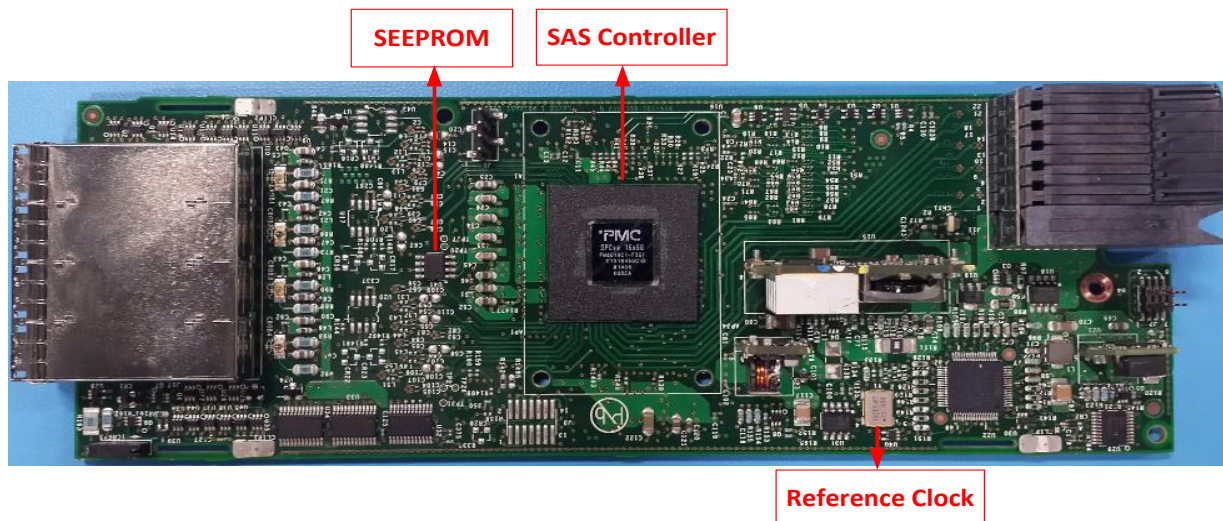
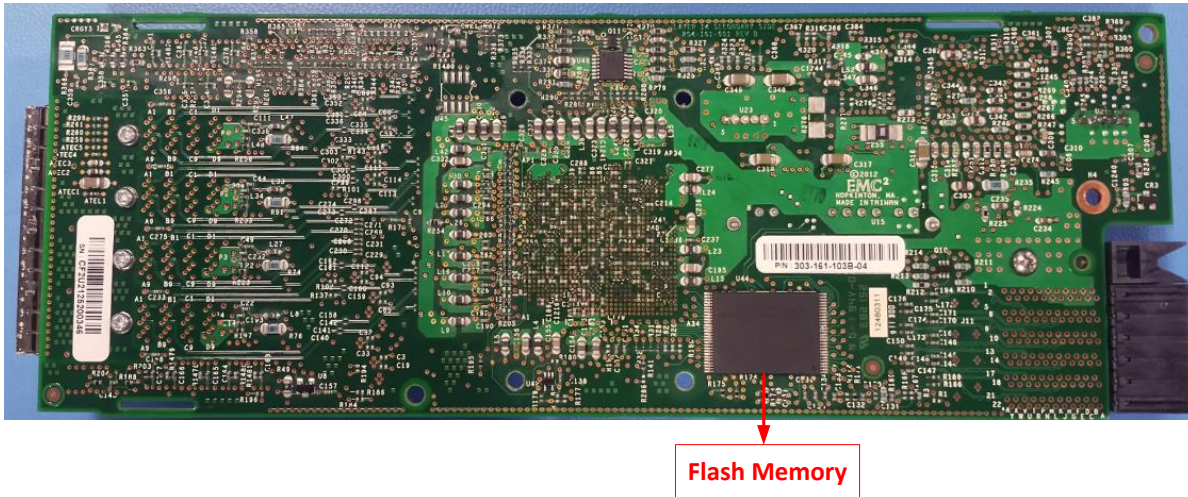

Figure 1 – UltraFlex Form Factor (Top View)
Figure 2 – UltraFlex Form Factor (Bottom View)
- The first form factor includes the PM8019 SAS controller variant (version 1.1.1-303-161-103B-04), and is embedded in a pluggable hardware module, the UltraFlex SAS I/O Module. The PM8019 is a sixteen-lane SAS controller configured to provide four quad-lane SAS interfaces or two eight-lane SAS interfaces. Figure 1 and Figure 2 below provide top and bottom views of the UltraFlex form factor.